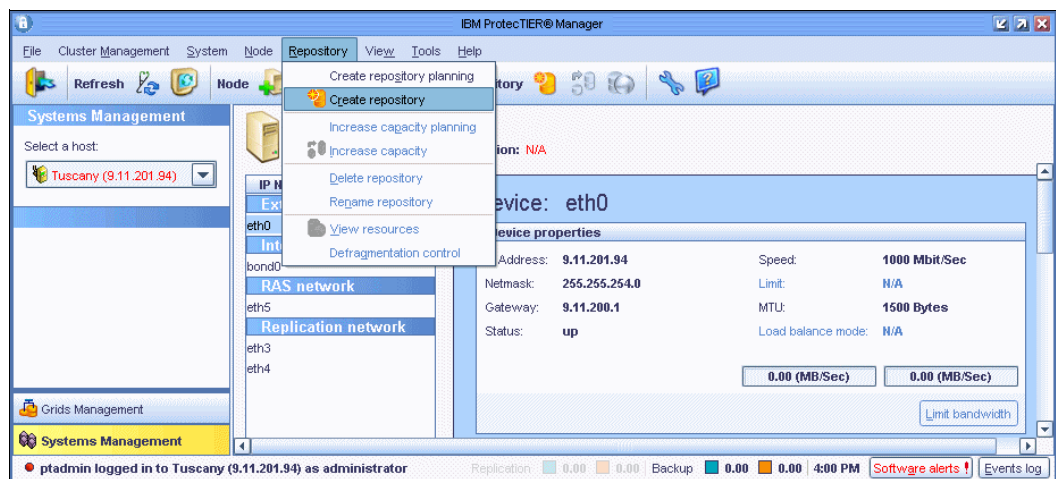

Figure 5-49 Create repository welcome window
2. Click **Create new repository**. The Create repository wizard Welcome window opens (Figure 5-49).